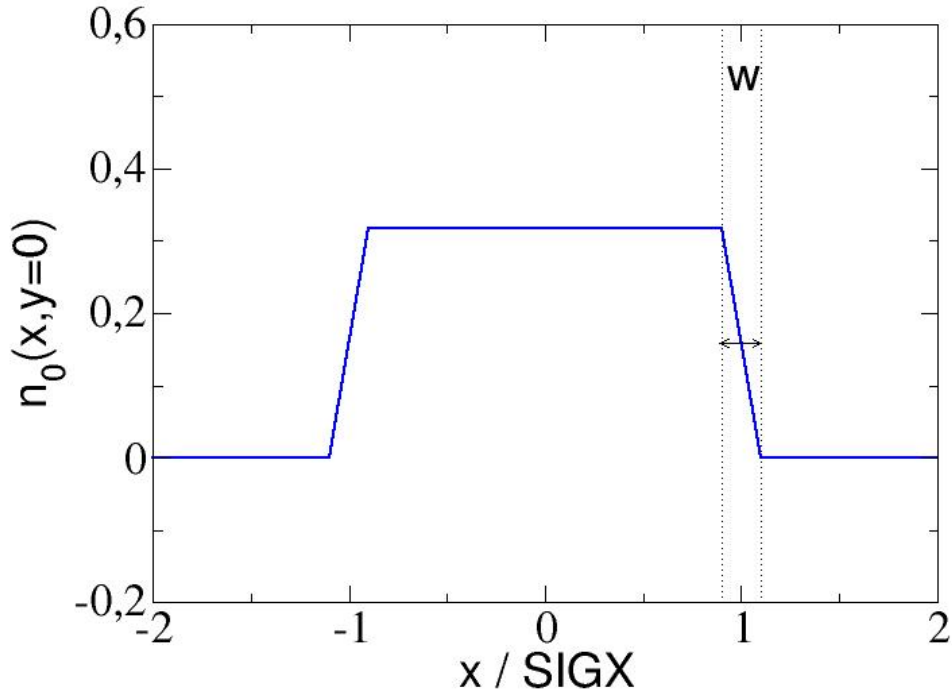

Figure 10.2: Trapezoidal shape of radial density for beam-beam lens.
- **BBSHAPE=2**: trapezoidal shape (see fig.10.2). **SIGX**, **SIGY** are the half widths of density profile, i.e. distance from the centre to half edge region with linear decrease of density in horizontal and vertical directions.